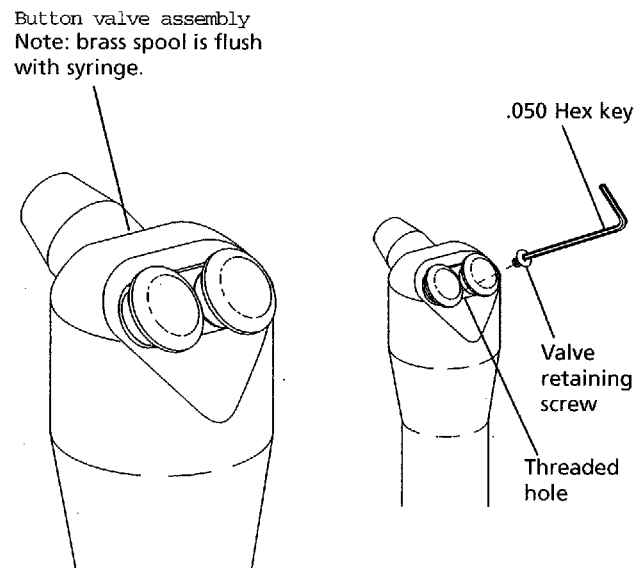

Figure 62. Install the button valves.
4. Press the valve assembly into the syringe head until the top of the brass spool is flush with the syringe head (see Figure 62).
5. Using the hex key, align the new valve retaining screw with the threaded hole in the syringe head, between the bottom of the button and the top of the brass spool of the valve assemblies (see Figure 62).